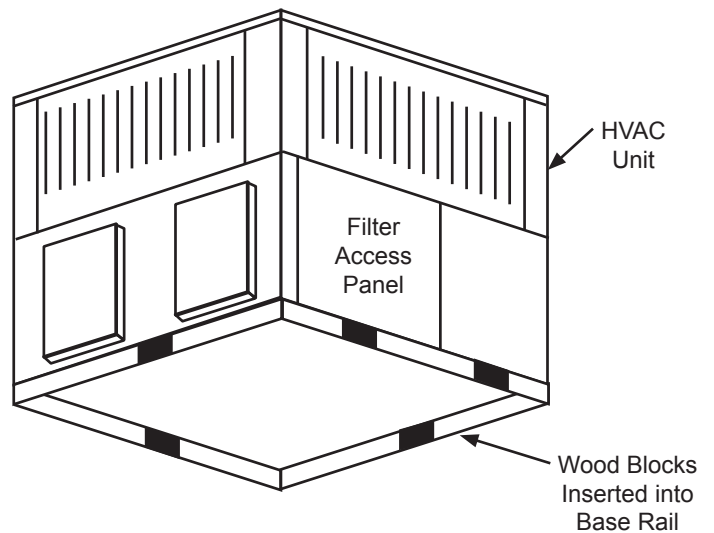
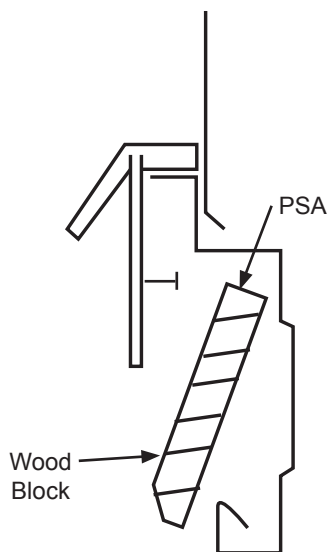

FIG. 5 - Wood Block Location
FIG. 4 - Wood Block Installation
5. Install the pressure sensitive adhesive, provided with CPGSKTKIT001A00, on to the top of the wood spacers. See Fig. 4. This will hold the spacer in place during installation.
6. Insert the (5) wood spacers into the inside of the base rails, see Fig. 4 and 7. NOTE: There will be (2) spacers in the base rail on the side of the unit with the filter access door. See Fig. 5.